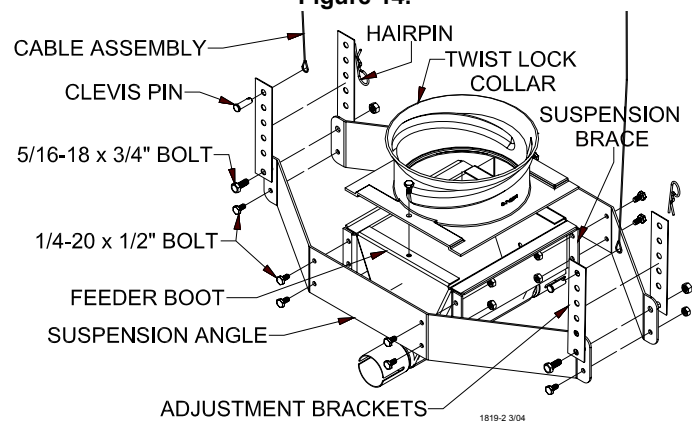

Figure 15.
4. Assemble suspension angles and suspension braces around feeder line boot (single or twin), using 1/4-20 x 1/2" Hex bolts and nuts (supplied in hardware package), see **figure 15**.
5. Assemble the twist lock collar to the top of the feeder line boot (single or twin) using 1/4-20 x 1/2" bolts and lock nuts (supplied in hardware package), see **figure 15**.
7. Two cable assemblies (cable with a sleeve clamp and a 5/32 thimble) are supplied with the suspension kit to support the hopper. Attach the cable assemblies to the adjustment brackets using the top holes of the adjustment brackets, see **figure 15**.